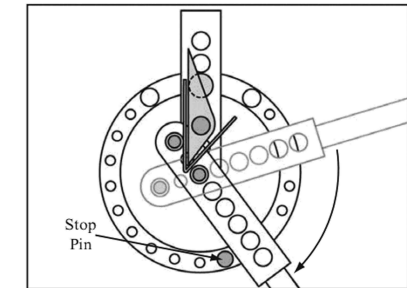

Figure 7. Making the basic angle bend.
- Depending upon the desired angle and the relationship between the angle bending block (18) and the yoke arm (15), select two dies that will properly brace the workpiece against the angle bending block, then install them, as shown in figure 7.
- To limit the bending range, install the stoppin (11) in the appropriate hole in the outer ring of the bending bracket (4), as shown in figure 7.